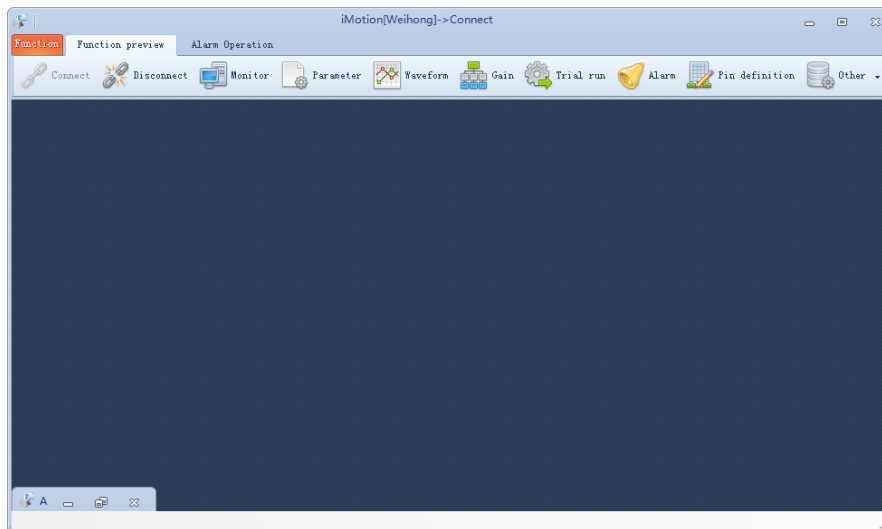

Fig. 2-2 Function preview
- b) Start *iMotion*, and directly select the function on the toolbar under [Function preview], see Fig. 2-2.